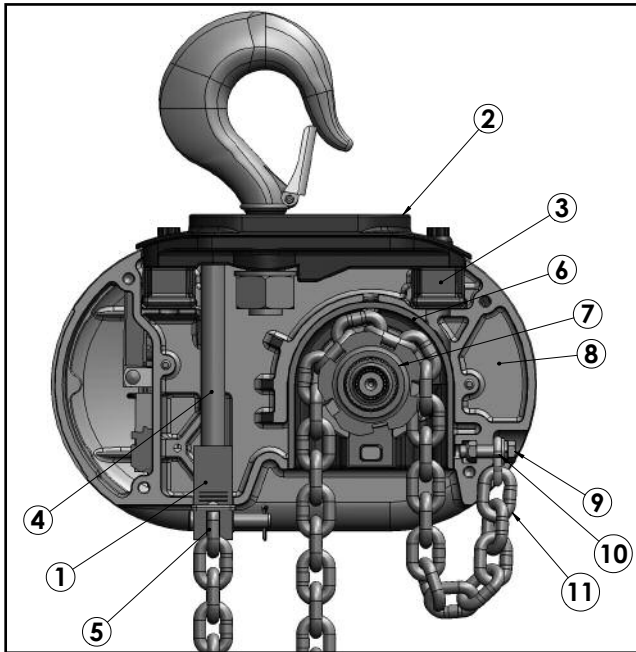

Figure 7. Attaching Load Chain Double Reeved Models
Remove the hook suspension, (2) suspension screws, (1) dead end pin, (1) washer, and (1) cotter pin from the packaging. It should be noted that the suspension includes a dead end bolt and block for supporting the dead end of the load chain as shown in Figure 7.
Place the suspension assembly into the recess on top of the hoist. The dead end block should project through the bottom of the hoist with the pin hole and slot aligned to the underside of the hoist as shown in Figure 7. If these are not aligned as shown, lift the head of the bolt from the hex recess in the adapter and turn the bolt and block assembly and reseat the bolt head to obtain the proper alignment. **Do not** change the position of the dead end block on the bolt to attain this alignment.
The dead end of the load chain is temporarily positioned (a few links from the end) by a wire tie. **Do not remove this tie before attaching the chain to the dead end block. (See Fig.7).**
The Double Reeved Units are shipped with the dead end of the load chain temporarily connected to the bottom of the hoist by a wire tie (1) as shown in Figure 7. The wire tie is located a few links from the end of the chain, and it should
2. The hoist is shipped with the dead end of the load chain temporarily positioned a few links from the end by a wire tie (1) as shown in Figure 7. Do not remove this wire tie until the chain is secured.